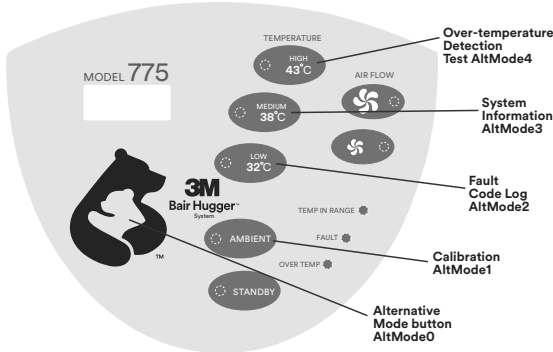

Figure 2. Location of Alternative Mode button
The warming unit has 5 alternative modes that allow access to the service and calibration utilities of the warming unit (see Figure 2 on page 7).
To enter one of the *alternative* modes, press the *Alternative Mode* button in combination with one of the operating mode buttons, also located on the front panel. Figure 2 indicates which keys must be pressed to enter each of the 5 *alternative* modes. When the correct combination of keys is pressed, the display reads “Hold for AltModeX,” where “X” represents the selected *alternative* mode.
4. Press the *Alternative Mode* button (see Figure 2. Location of Alternative Mode button on page 7) and the *Ambient* button simultaneously for 3 seconds. The warming unit is now in *Calibration* mode. In this mode, the warming unit performs the following tasks:
4. With the warming unit in *Ambient* mode, press the *Alternative Mode* button (See Figure 2. Location of Alternative Mode button on page 7) and the 43°C button simultaneously for 3 seconds. The warming unit is now in the *Over-Temperature Detection* Test mode. In this mode, the warming unit performs the following tasks:
2. Press the *Alternative Mode* button (Figure 2. Location of Alternative Mode button on page 7) and the 32°C button simultaneously for three seconds. The warming unit is now in Fault Code Log mode. In this mode, the warming unit performs the following tasks: